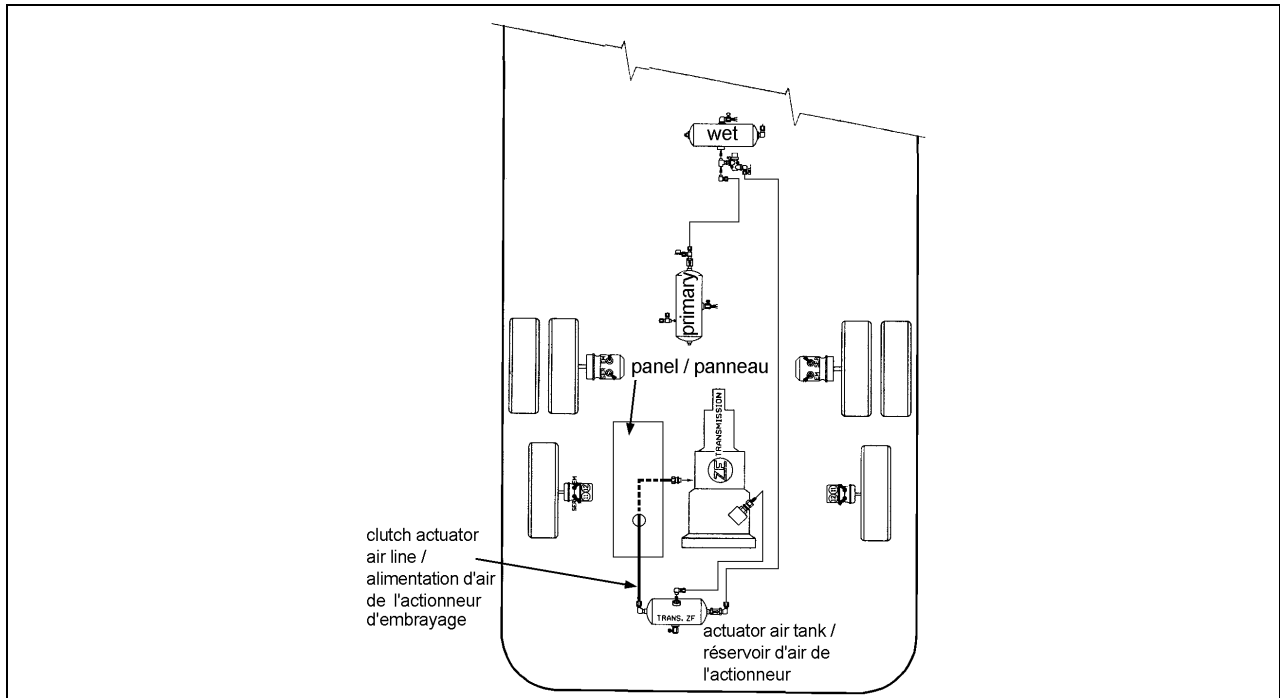

Figure 2
2. Inspect the clutch actuator air line up to the air tank (Figure 2) especially where the air line passes through the transmission protective panel. There is a risk of rubbing between the air line and the passing hole. Check for cuts, rub or abrasion marks on the nylon tubing.
*Before tackling step 2, purge the clutch actuator air tank (Figure 2).*